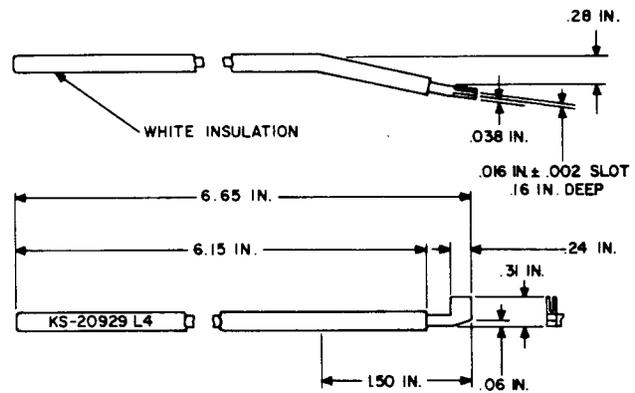

Fig. 16—KS-20929, L4, Adjuster Tool
2.18 KS-20929, L4: The KS-20929, L4, adjuster tool (Fig. 16) is used for adjusting the lower